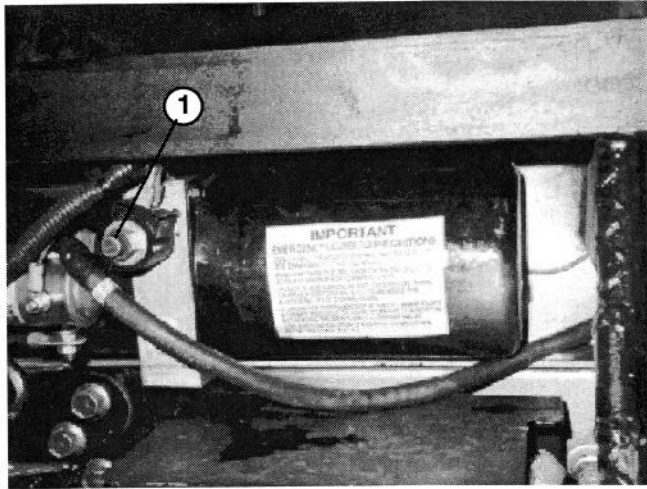

Figure 22
2. Push in red knob on solenoid valve (Fig. 22) and rotate 180° counter-clockwise to activate emergency lowering valve.